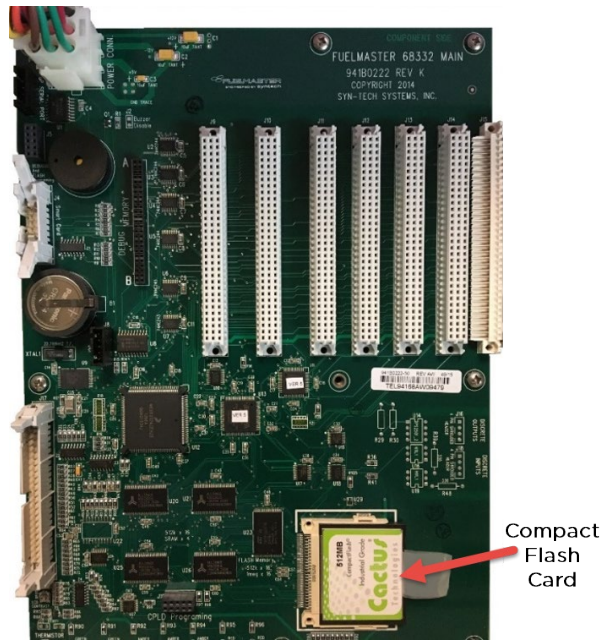

Figure 1 Compact Flash Card on FMU Mainboard 941B0222
5. Check the FMU Mainboard (941B0222) for a Compact Flash Card (Figure 1).